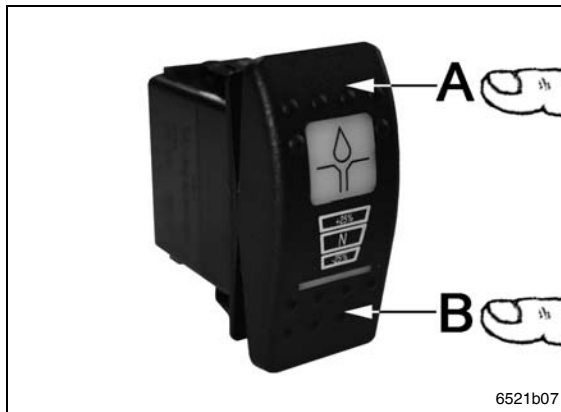

Fig. 27 Multifunctional Pushbutton
- In the case of mobile applications it is possible to trigger additional lubrication cycles externally by pressing the multifunction pushbutton (fig. 27):
- Press upper pushbutton A (fig. 27) min. 2 seconds.
- Press bottom pushbutton B (fig. 27) in order to confirm fault signals. However, this is not compulsory. Confirmed fault signals that have not been remedied, will become active again when switching on the ignition.
- **Press A** + upper pushbutton (fig. 27):
- **Press B** – lower pushbutton (fig. 27):